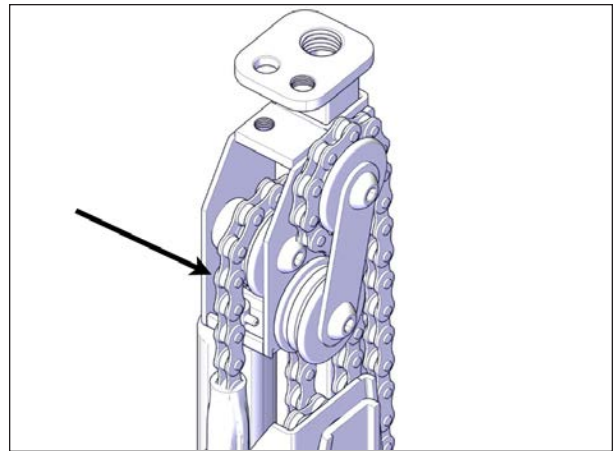

FIGURE 91: JACK CHAINS
9. Inspect the chains for signs of deterioration. If this is the case, please call your local Covana dealer immediately see Figure 91.